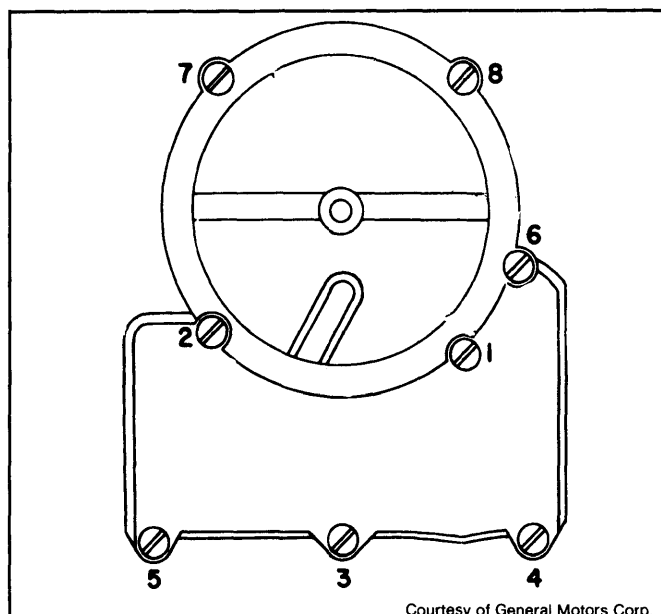

Fig. 9: Air Horn Tightening Sequence
4) Install air horn screws, noting location and type of screw for correct installation. Tighten screws evenly and in proper sequence. See Fig. 9.